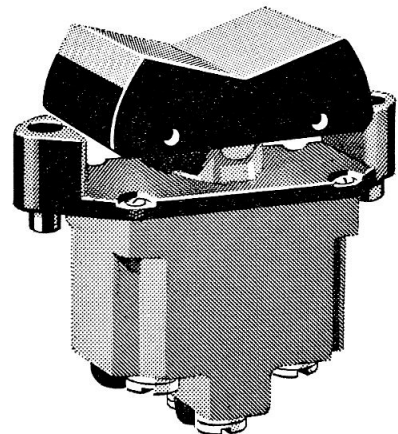

Fig. 1. View of a T.P. rocker actuator switch
4. The "TP" series of rocker-actuator switches comprise a single-pole, two-pole and four-pole range, each range can be installed for above-panel, or flush-panel mounting, and again, each type of panel mounting can be fitted with a range of transparent and translucent button switches. Single-pole, two-pole and four-pole switches, their contact arrangements and current carrying capacity are detailed in Table 1 of Appendices 1, 2 and 3 to this chapter. A general view of a typical "TP" switch is shown in figure 1 of this chapter.